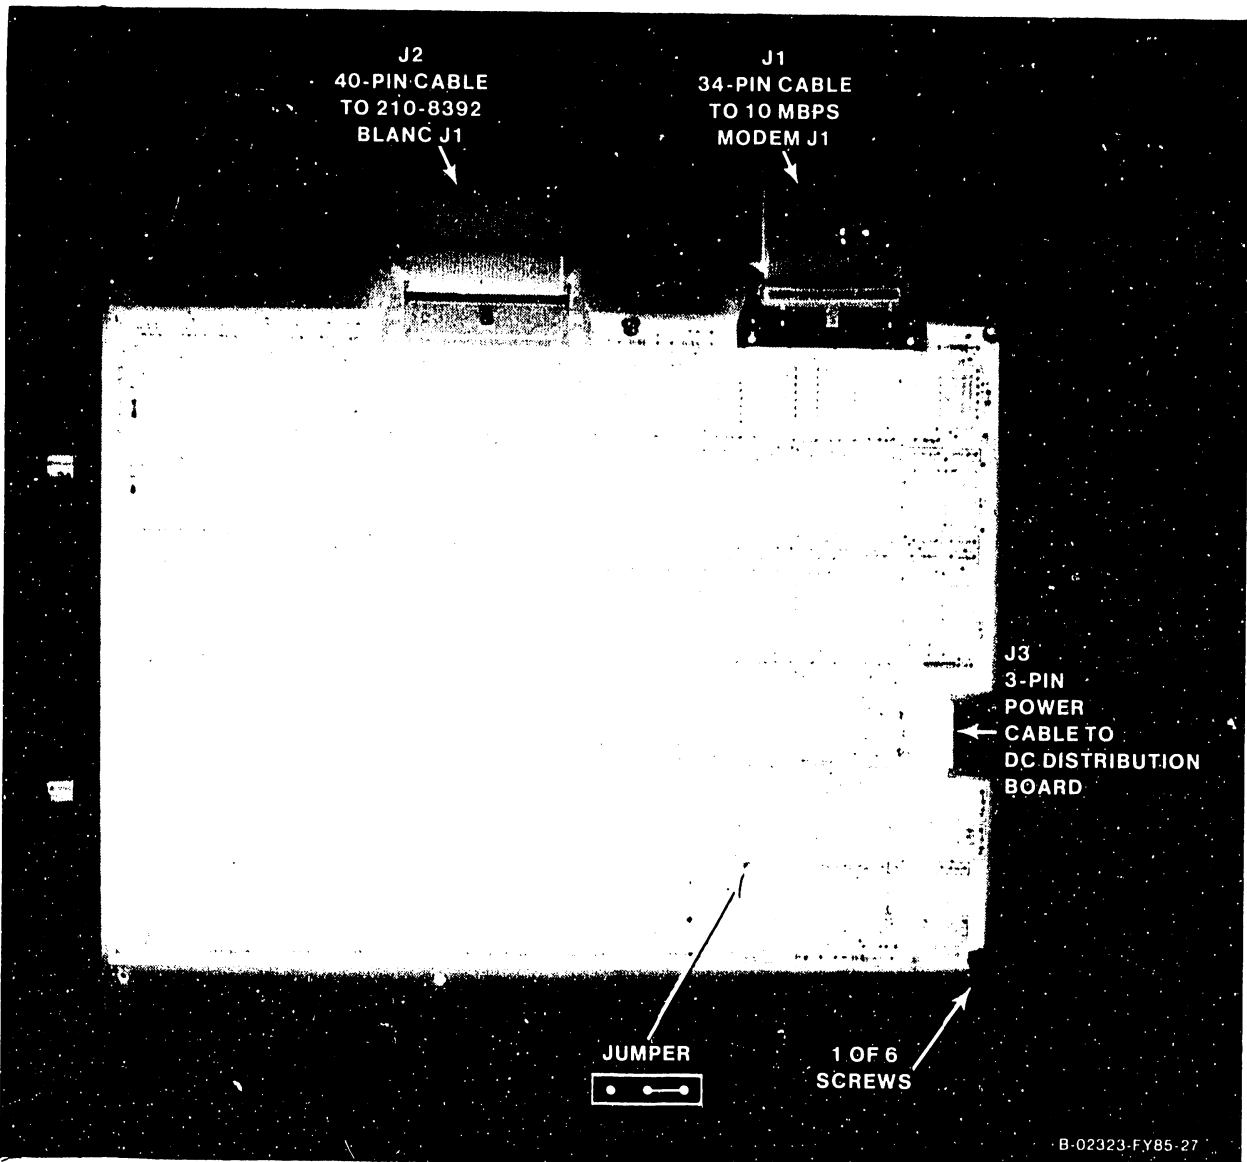
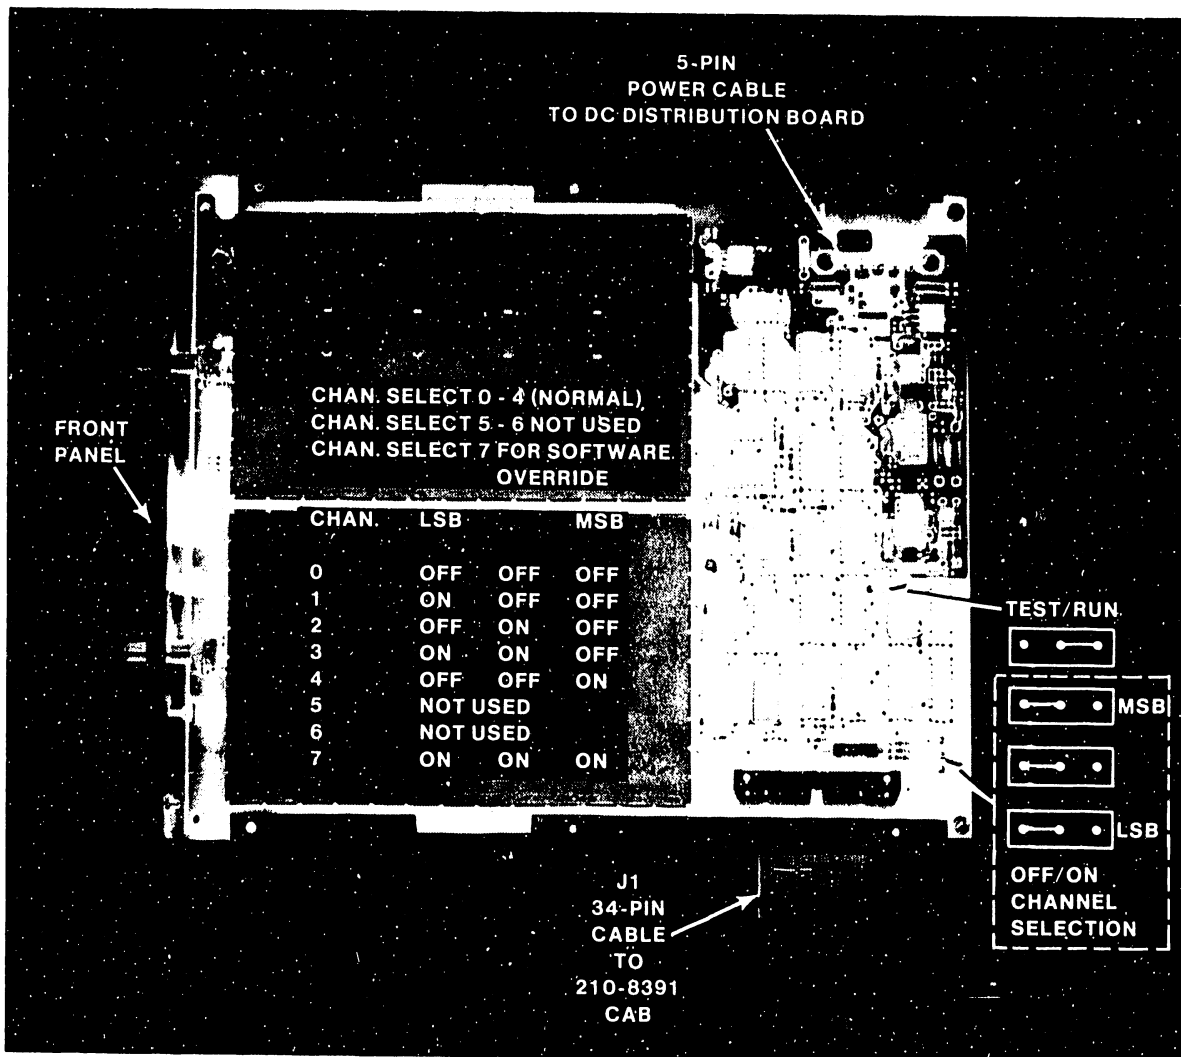

Figure 5-38. 23V79 CIU CAB Board
Figure 5-39. 5-Channel 10 Megabit Duobinary Modem
3. The CIU CAB board (figure 5-38) is mounted on top of the 10 megabit per second (MBPS) duobinary modem. The modem and the CAB board are located behind the CIU connector panel at the rear of the mainframe. Refer to figure 3-12. Disconnect all cables from the CAB board. It may be necessary to remove the CIU connector panel from the back panel to allow access to the rear power cable on the CAB board.
5. After checking the 3-position jumper shown in figure 5-38, install the new CAB board.
3. The 10 megabit per second (MBPS) duobinary modem (figure 5-39) has the 210-8391 CIU CAB board (figure 5-38) mounted on top. The modem and the CAB board are located behind the CIU connector panel at the rear of the mainframe. Refer to figure 3-12. Disconnect all cables from the modem. It may be necessary to remove the CIU connector panel from the back panel to allow access to the CAB and modem.
6. After checking the four 3-position jumpers shown in figure 5-39, install the new modem. (Refer to Appendix A for 10MBPS modem channel allocations and device types that should not be used on the same channels or frequencies.)